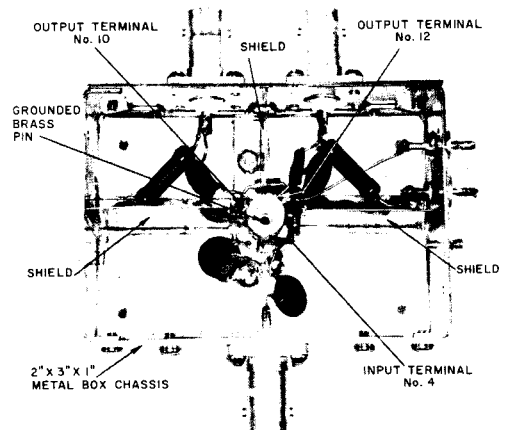

Fig.6 - Test Circuit Layout
Stable high-frequency operation requires that proper high-frequency construction techniques be followed. The photograph of Fig.6 illustrates the precautions taken in the construction of the test circuit of Fig.3.
1. Use sockets only when necessary. Sockets, when used, must provide shielding within the pin circle. The socket shown in the chassis of Fig.6 is a Barnes MG-1201, or equivalent, modified by drilling a $1/8$ " hole in the center and inserting a grounded brass pin.